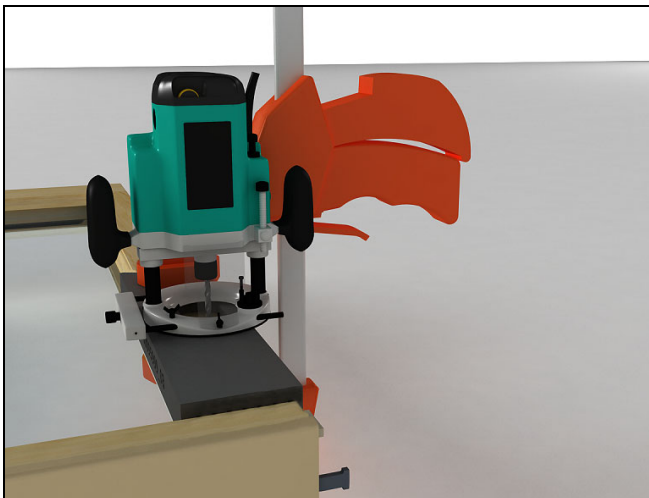

Figure 3
3. Set router bit depth to 13/16" and route correct area using jig. See Figure 3.